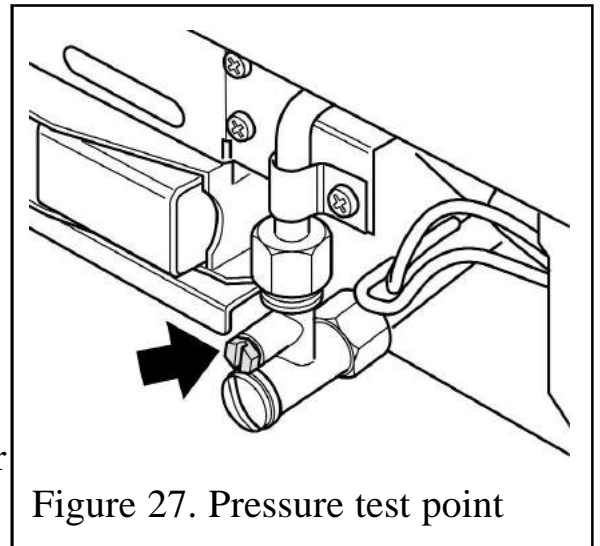

Figure 27. Pressure test point
1. Check the inlet pressure by fitting a pressure gauge at the test point. The test point is on the inlet 'T' connector (See figure 27). Check the pressure with the appliance alight and set at maximum output.